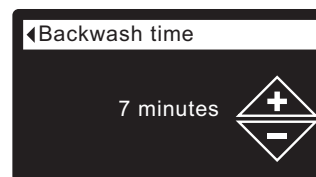

FIG. 79
- 8a. **Backwash time:** Press the UP (▲) or DOWN (▼) buttons to change the backwash time. Hold the button down to rapidly advance. The backwash time can be set from 1 to 30 minutes* (See Figure 79).